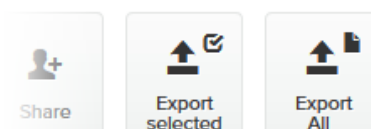

Figure 74. Plug-ins web page (code export controls)
4. To export only selected Activation codes, check the selection check-boxes to the left of each plug-in that must be included in the *.CSV file, then click the **Export selected** button. Alternatively, export all Activation codes by clicking the **Export All** button (Figure 74 \(page 170\)).